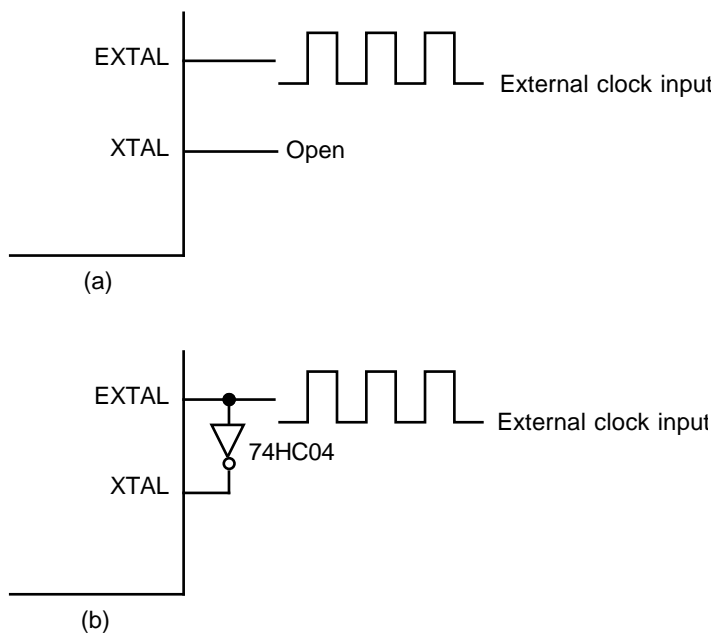

Figure 13-5. External Clock Input (Example)
(2) Input of External Clock Signal
① **Circuit Configuration:** An external clock signal can be input as shown in the examples in figure 13-5. In example (b), the external clock should be held high during standby.